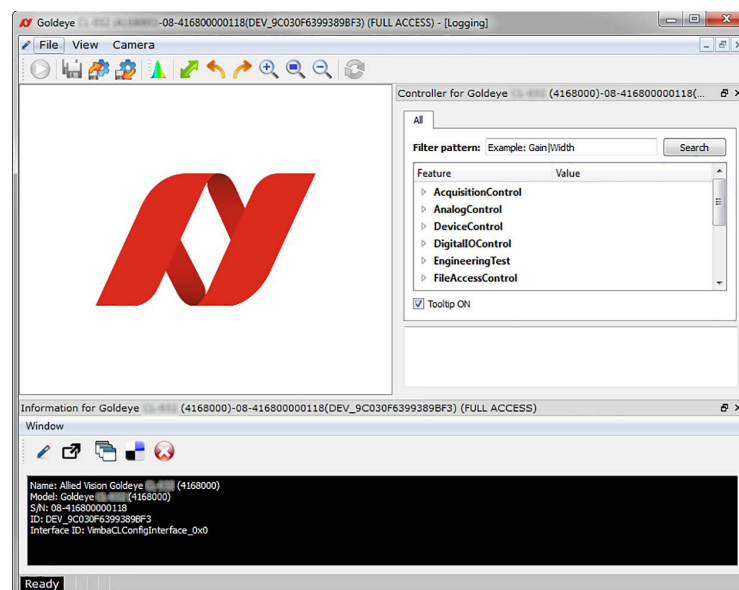

Figure 11: Vimba Viewer window
- 4. A new camera window appears, as shown in Figure 11 on page 65. This camera window consists of the following components:
The controller window is displayed in the top right section of the Vimba window, refer to Figure 11 on page 65. It is used to configure the camera frame rate, exposure time, pixel format, and much more. A detailed explanation of camera controls is available in the Goldeye G/CL Features Reference.